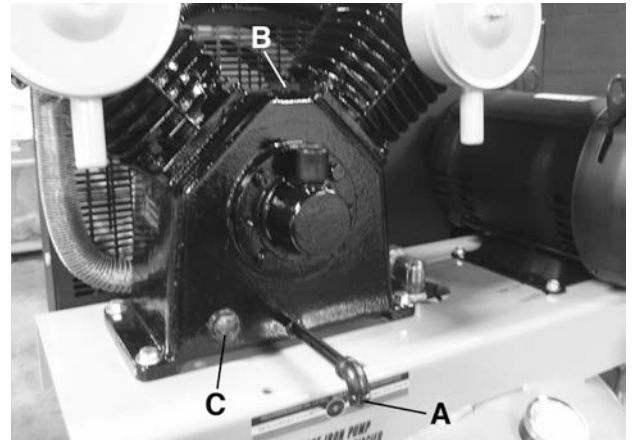

FIGURE 11
To change oil, oil must be drained from the crankcase by removing oil drain bolt (A) Fig.11. Drain oil and replace oil drain bolt. To fill the crankcase with oil, first unscrew and remove oil fill cap (B), pour air compressor oil (approx. 800 ml of SAE 30 weight non-detergent oil) into oil opening until the oil level reaches the red dot at the centre of the oil sight glass (C). Reinstall the fill cap (B).